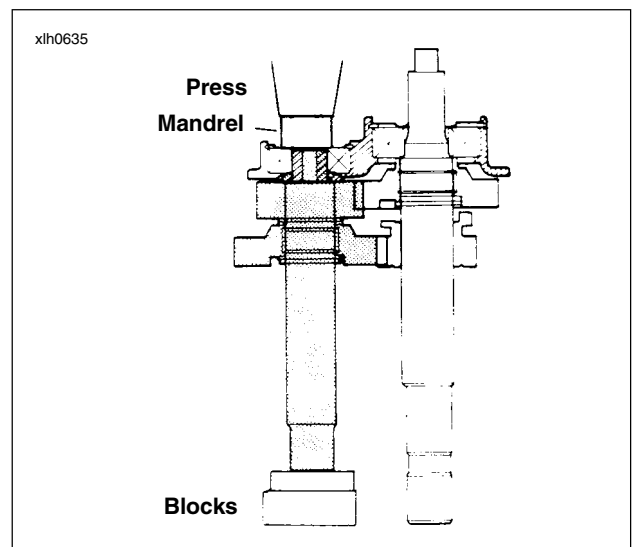

Figure 6-43.
9. See Figure 6-43. Stand countershaft assembly on press with beveled washer upward. Place access cover and mainshaft assembly on top of countershaft with bearing (1) in access cover over end of countershaft. Place a socket or section of pipe on inner race of bearing (1). Hold assembly straight, making sure gear teeth on countershaft are engaged with gear teeth on mainshaft, and press bearing onto shaft until beveled spacer bottoms against bearing.